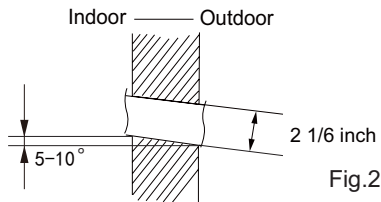

Fig.2
(2) Open a piping hole with the diameter of 2 1/6 inch on the selected outlet pipe position. In order to drain smoothly, slant the piping hole on the wall slightly downward to the outdoor side with the gradient of 5-10°.(As show in Fig.2)